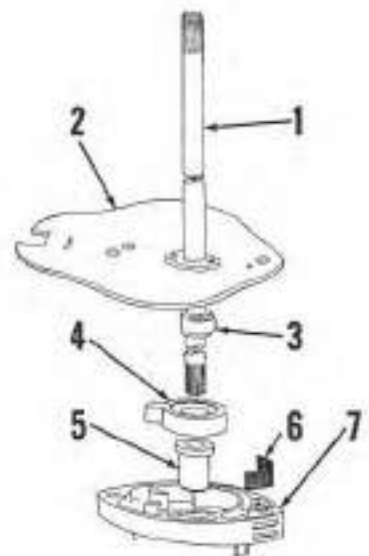

Fig. Mc6—Exploded view of water pump.
by the leg. As drive shaft turns, water is drawn into the pump (IN) and forced through the outlet (OUT) up into the power head. To disassemble the water pump, first remove the gearcase housing as outlined in LOWER UNIT section and proceed as follows: Remove the anti-cavitation plate (2—Fig. Mc6) and drive shaft (1). Rotor can now be withdrawn from gearcase housing. Cam (3) is pressed on a knurled section of drive shaft and is renewable separately. Rotor (4) and anti-cavitation plate (2) are both marked "TOP" for proper assembly.